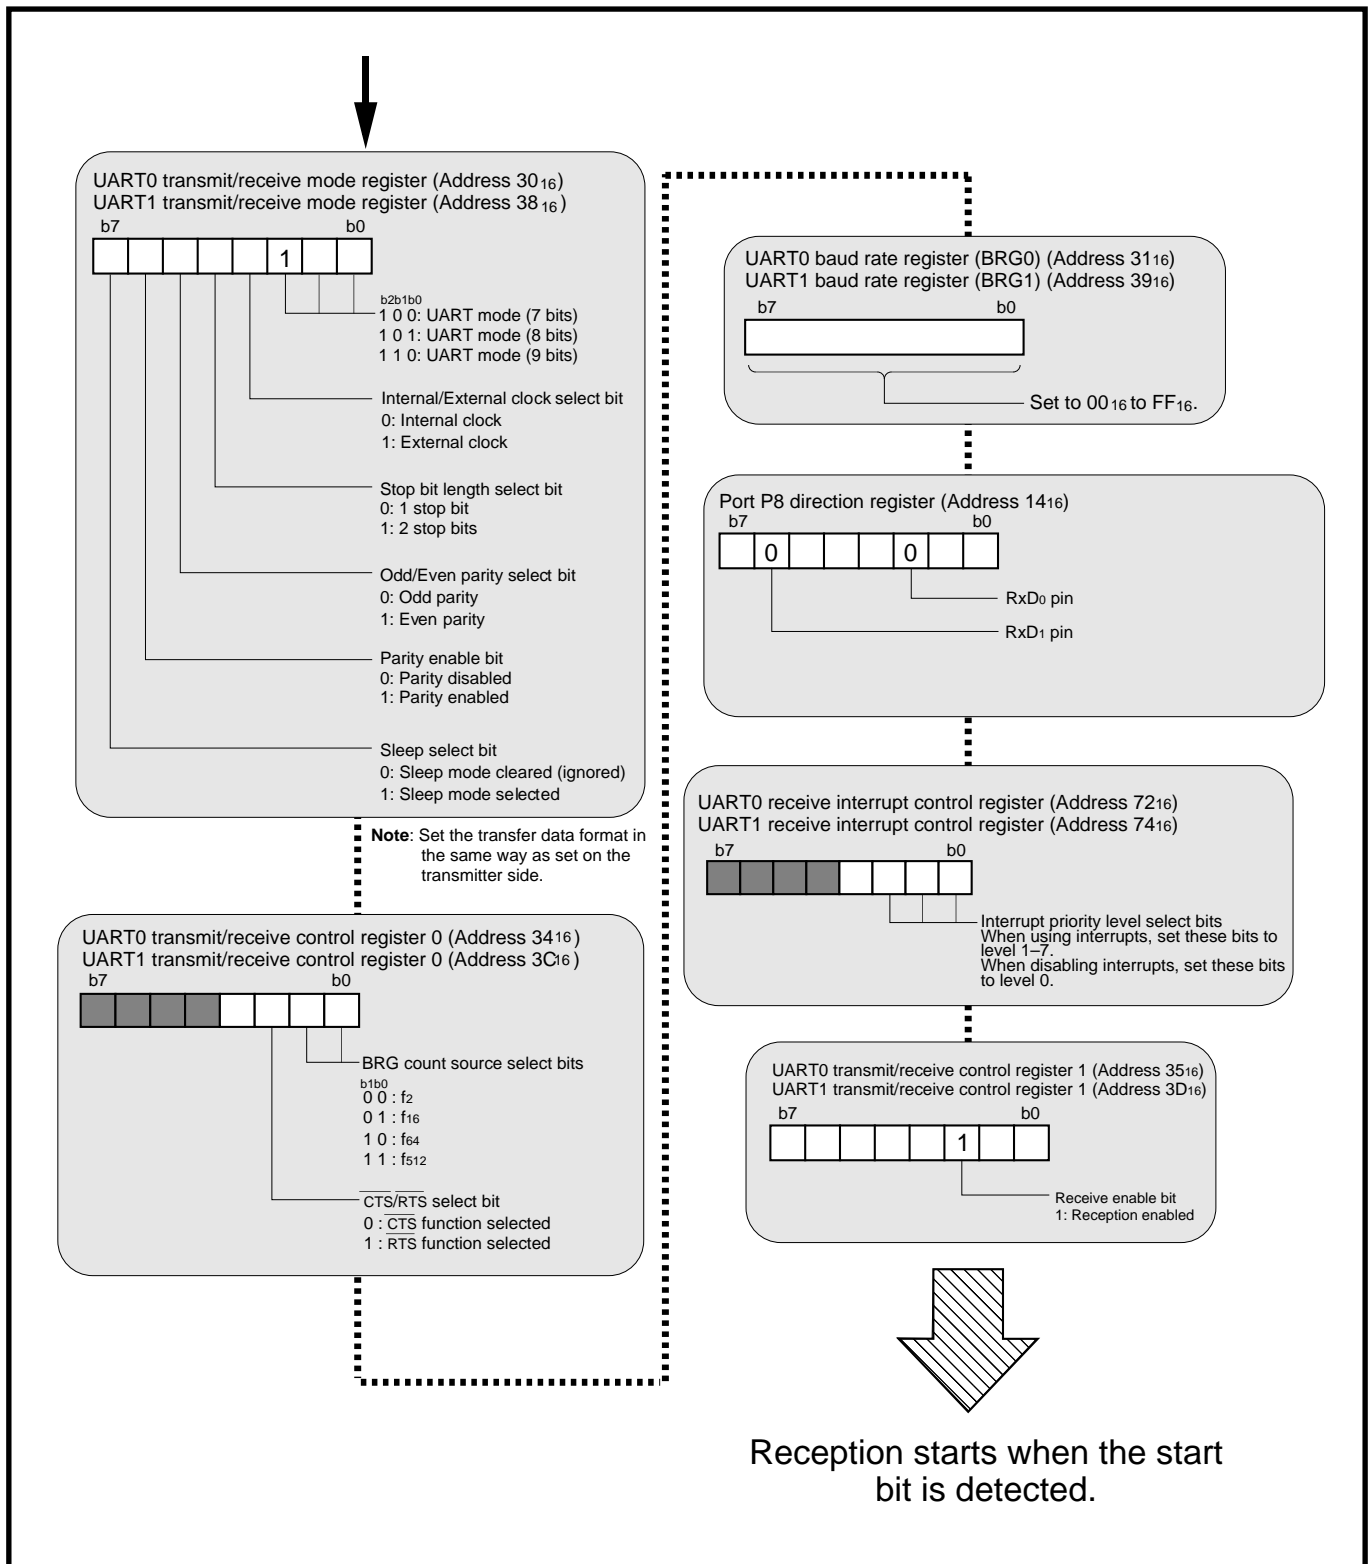

Fig. 7.4.8 Initial setting example for relevant registers when receiving
Figure 7.4.8 shows an initial setting example for relevant registers when receiving. Reception is started when all of the following conditions (① and ②) are satisfied:
- ① Reception is enabled (receive enable bit = “1”).
- ② The start bit is detected.